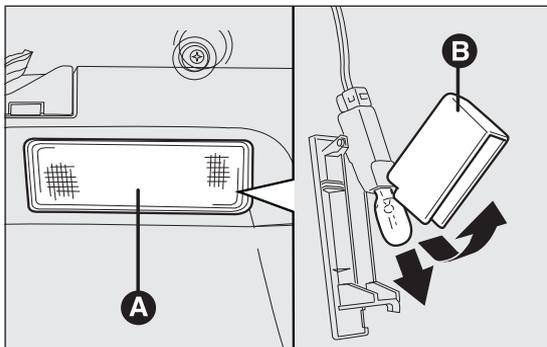

fig. 156
- remove the light A fig. 156 levering in the point shown by the arrow;